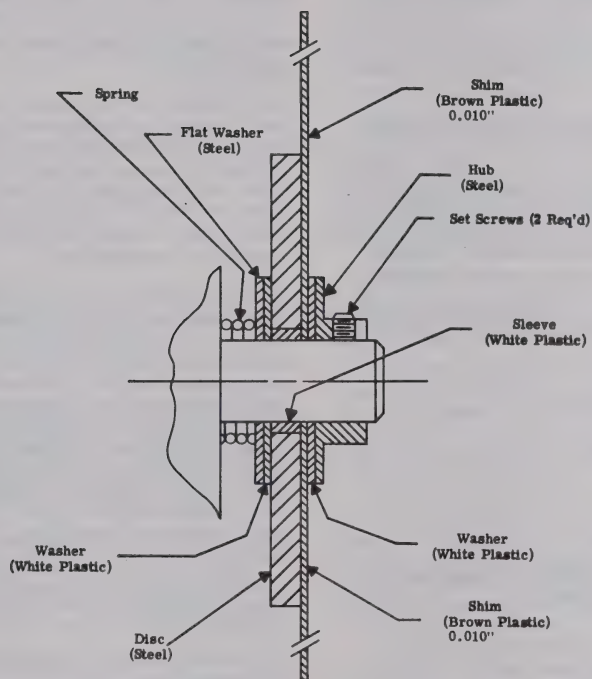

Figure 9.2.
2. Replace the worn or damaged parts, and reassemble the damper assembly on the shaft as shown in Figure 9.2.
3. With two 0.010" brown plastic shims (from the maintenance kit) in position as shown in Figure 9.2., load the flanged hub until the spring is compressed solid. Then tighten the set screws, and remove the shims.